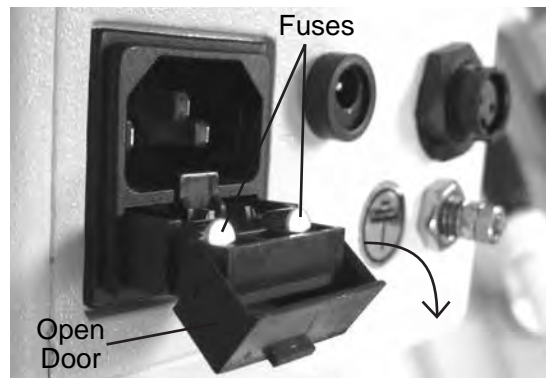

Figure MM-9 Open Fuse Door
3. Open the Door to the Fuse Holder by pulling it down. Refer to Figure MM-9.